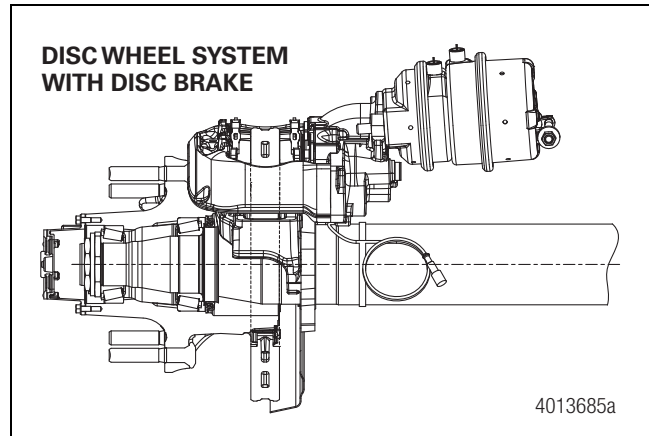

Figure 9.11
- Brake rotors are always mounted inboard of the hub. Therefore, the hub must be removed prior to removing the brake rotor, thus disturbing bearings, seals and lubricant. Figure 9.11. Note, however, that the Meritor EX225L plus air disc brake design allows brake linings to be replaced without removing the hub. For more information, refer to Maintenance Manual 4M, Air Disc Brakes. To obtain this publication, refer to the Service Notes page on the front inside cover of this manual.